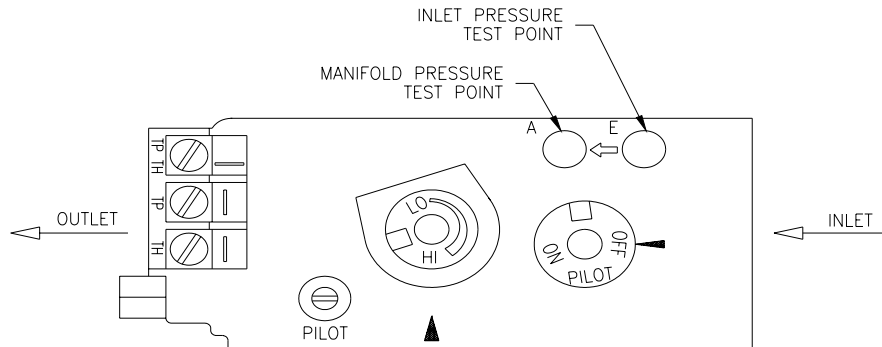

Figure 3
5. Push in the gas control knob slightly and turn clockwise to the “OFF” position (see Figure 3).